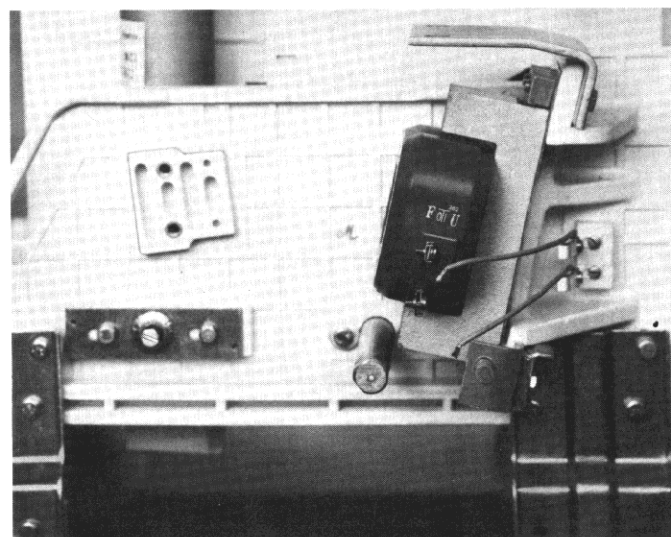

Figure 8. Coil replacement Step 6 — disconnecting the coil leads
6. Disconnect the coil leads at the coil and remove the coil (Figure 8).